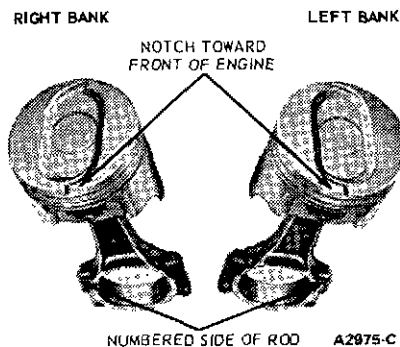

FIG. 65 Correct Piston and Rod Position
1. Apply a light coat of engine oil to all parts. Assemble the piston to the connecting rod with the cylinder number side of the connecting rod and indentation notch in piston positioned as shown in Figure 65.